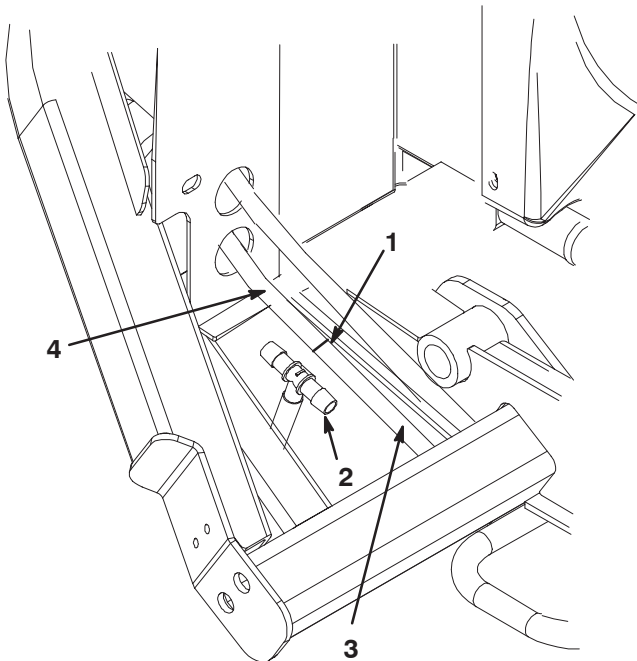

Figure 19
26. Measure approximately 5 inches from the radiator frame and cut the oil cooler return hose. This is the hose between the deck lift valve and the oil cooler. Hold the hose ends upward to decrease the amount of hydraulic fluid lost (Fig. 19).
27. Insert the ends of the hydraulic tee fitting into the cut hose ends (Fig. 19).